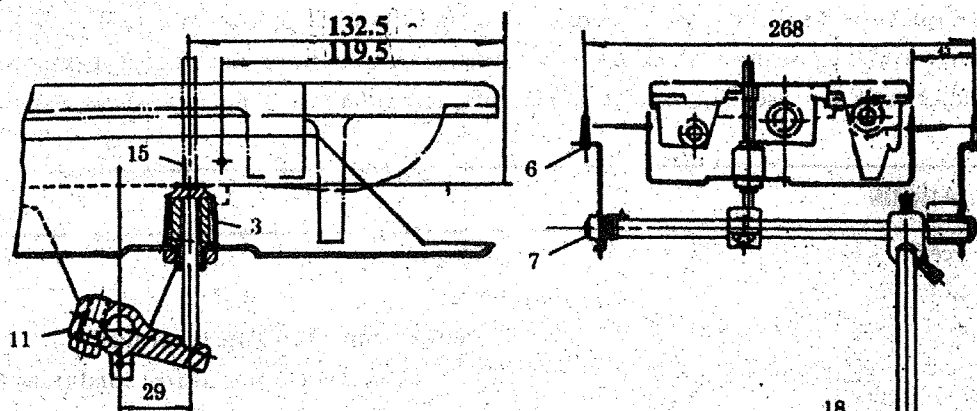

Fig. 3
4) Mounting rock shaft bracket of knee lifter (Fig.3, also see figure in chapter 9)
1. Adjust rock shaft knee plate (18) so it is comfortable for the machine operator to use.
2. Adjust the position of knee lifter assembly following Fig. 3, then fasten the rock shaft bracket (7) with wood screws (6).